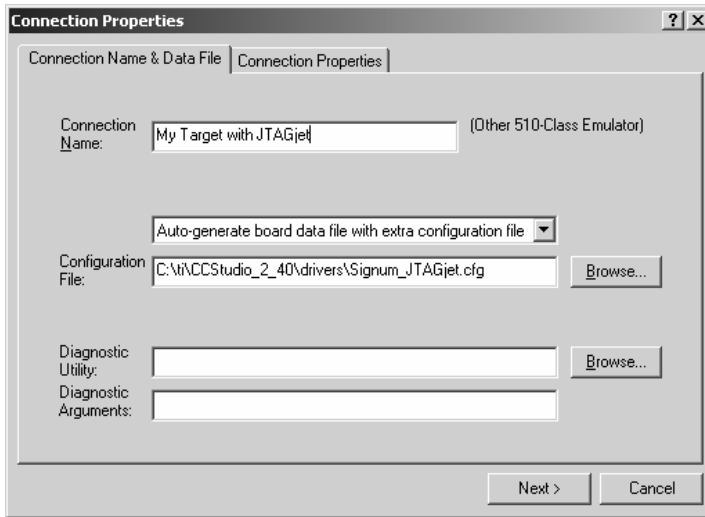

FIGURE 26 Configuring devices in Code Composer Studio 2.4.
2. From the list shown in the middle pane chose Other 510-Class Emulator by double-clicking on the text or drag it to the left pane. In the Connection Properties dialog box that appears (Figure 26):